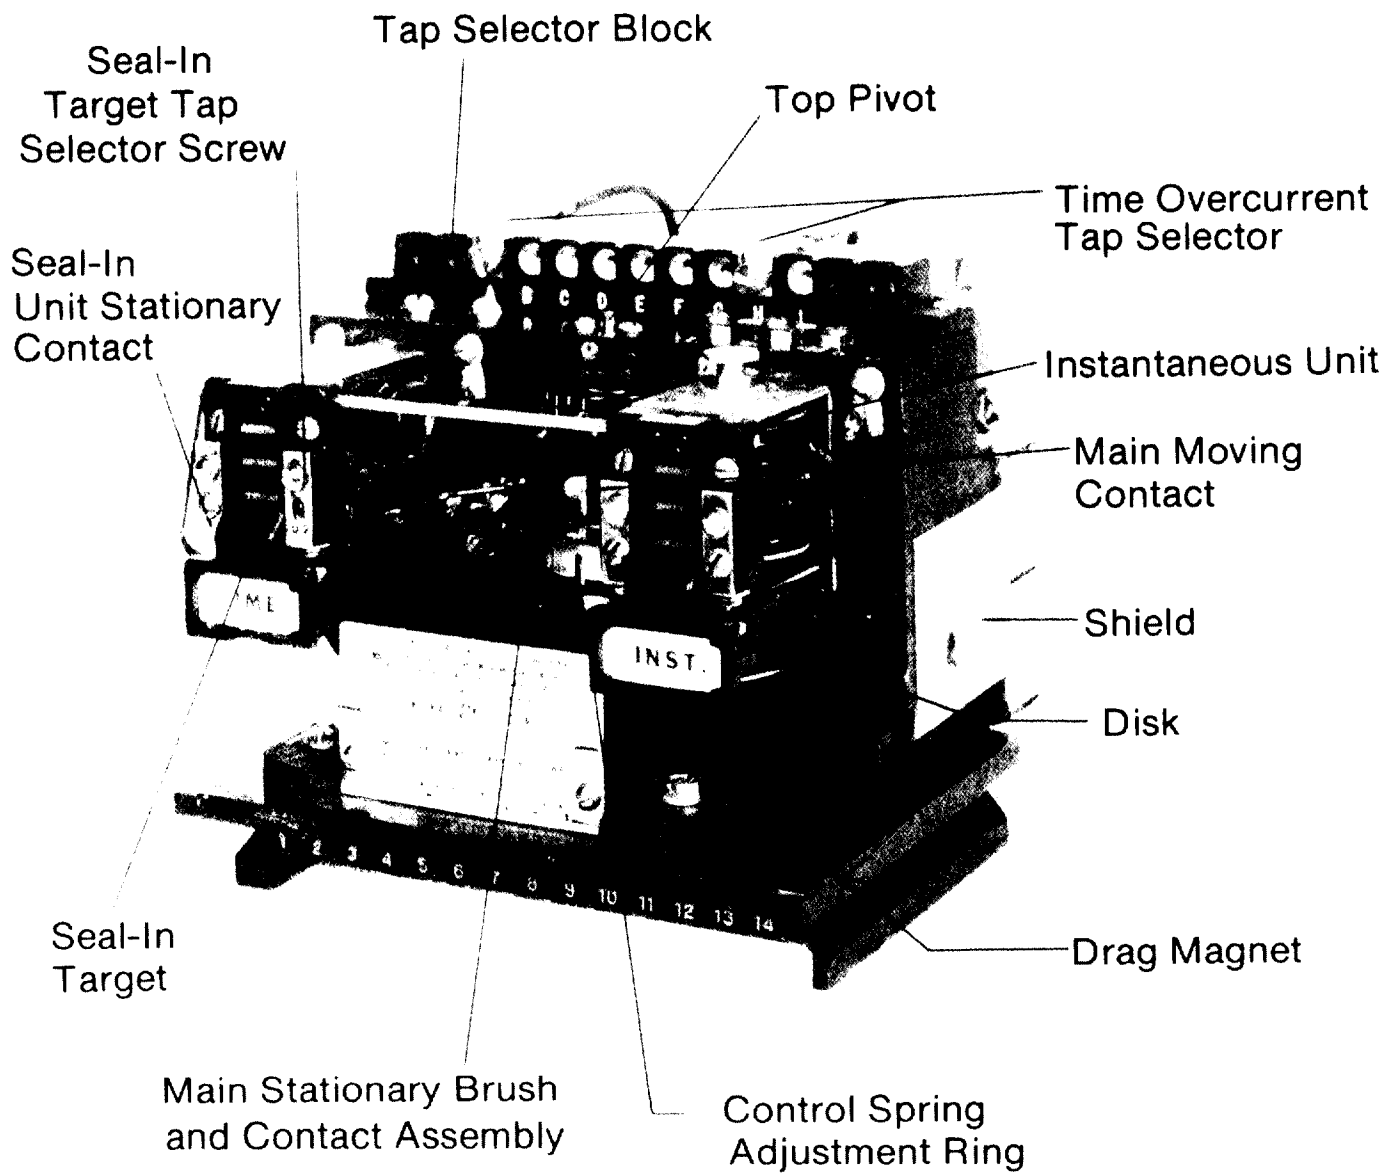

Figure 1 (8043510) IFCV51BD Relay, Removed from Case, Front View
1. Select the desired range by setting the link in the proper position. (See Figure 1 and the internal connections diagram, Figure 3 or 4.) Whenever possible, be sure to select the higher range since it has a higher continuous rating.